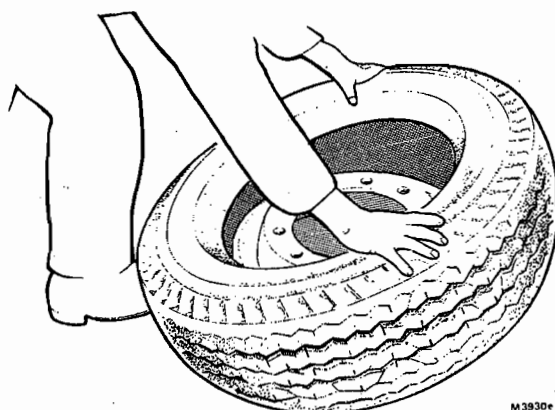

FIG. 6. FITTING FIRST BEAD
4. Position the tyre and using manual force fit the first bead as for normal car tyre fitting, Fig. 6.